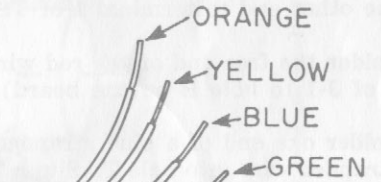

FIGURE 17. HOW TO PREPARE THE 9-CONDUCTOR CABLE "A"
- ✓ Cut a 30" piece of 9-conductor cable. Carefully remove 3¾" of the outer insulation from one end. (Do not cut through the insulation of the inner wires.) Prepare the 9 wires at the end as shown in Figure 17.
- See Figure 17. Carefully remove 14 " outer insulation from the free end of the cable. Cut the red, black, white, brown and violet wires to the specified lengths, as shown.